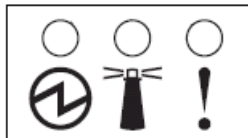

Figure 6-1 System status LEDs: (left to right) OK, Identify and Error
- ▶ System status LEDs, as shown in Figure 6-1.